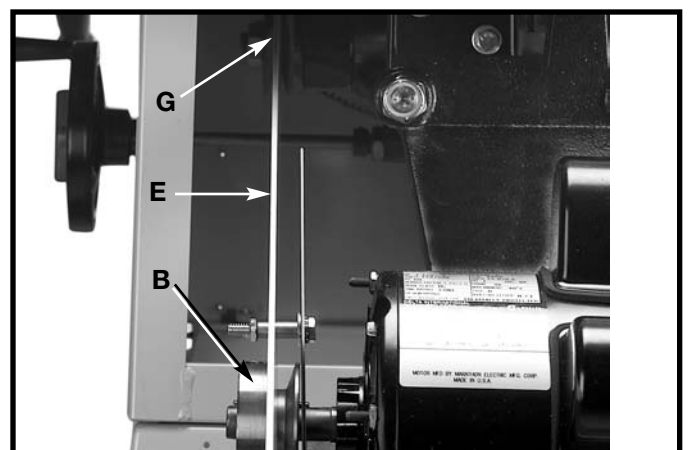

Fig. 18
6. Use a straight edge (E) to align the motor pulley (B) Fig. 18 with the arbor pulley (G). If necessary, adjust the motor pulley (B) in or out on the motor shaft. **Tighten the four hex nuts that fasten the motor to the motor mounting plate.** See section “ASSEMBLING MOTOR TO MOTOR MOUNTING PLATE”.